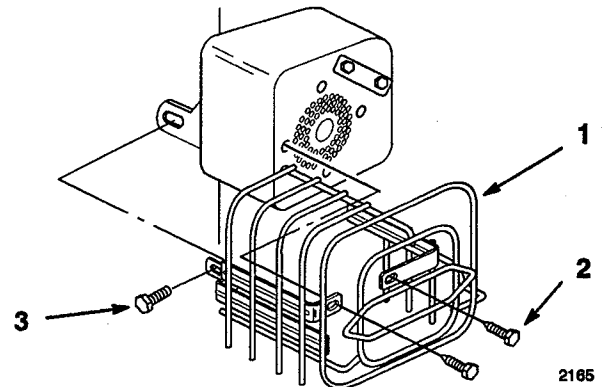

Figure 2
1. Remove muffler deflector and mounting bolts (Fig. 2). Discard.
2. Remove shroud mounting bolt (Fig. 2). Save for use when installing muffler guard.
4. Secure muffler guard to muffler with (2) new flange bolts, thread into muffler (Fig. 2).
5. Secure muffler guard to shroud with previously removed bolt (Fig. 2).